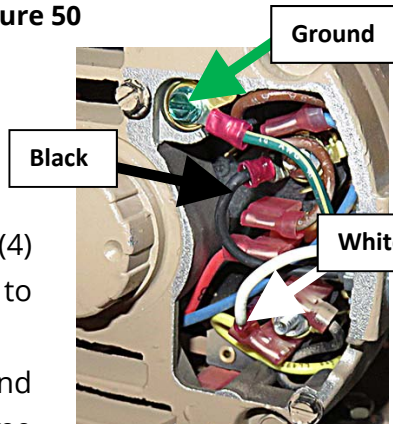

Figure 52
50. Disconnect the ground (green), neutral (white) and hot (black) wires from the motor (see Figure 52).